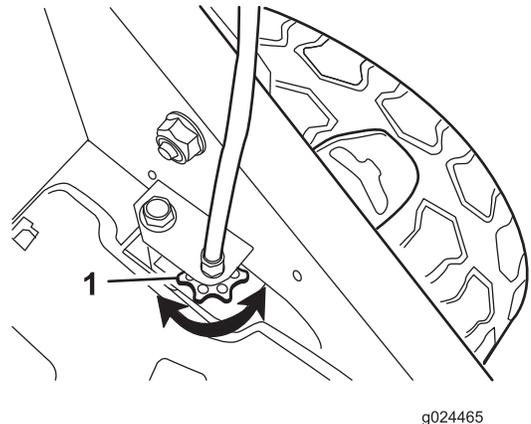

Figure 21
- If the wheels do not spin when you engage the self-propel-drive bar, the traction belt is too loose. Rotate the wheel-drive-control knob (Figure 21) clockwise 1 turn and repeat steps 3 through 5.
- If the wheels spin before you fully engage the self-propel-drive bar, the traction belt is too tight. Rotate the wheel-drive-control knob (Figure 21) counterclockwise 1 turn and repeat steps 3 through 5.